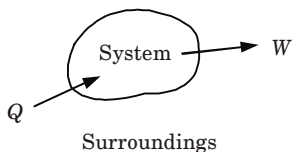

Fig. 1.27.1. Heat and work interaction of a system with its surroundings in a process.
3. If Q is the amount of heat transferred to the system and W is the amount of work transferred from the system during the process (Fig. 1.27.1), the net energy transfer $(Q - W)$ will be stored in the system.